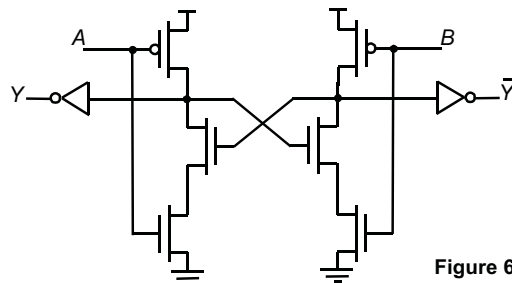

Figure 6.8 Gate.
12. What is the function of the circuit in Figure 6.8?